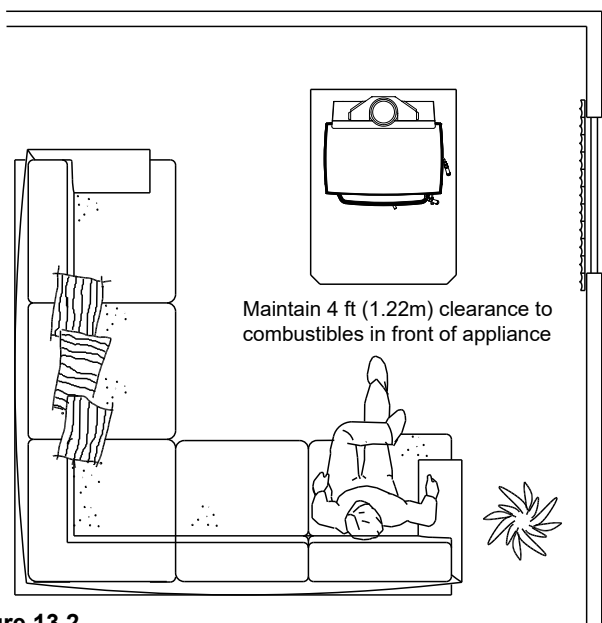

Figure 13.2
**NOTE:** Do NOT place combustible objects within 1.2m of the front of appliance (**Figure 13.2**).